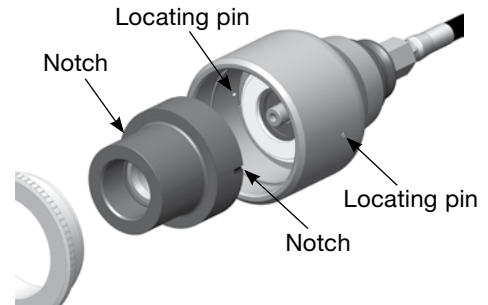

Fig. 8 Die Head Alignment
5. Install the selected **die head** into the **hydraulic housing**, and align the two notches on the die head with the two **locating pins** on the hydraulic housing. See Fig. 8.